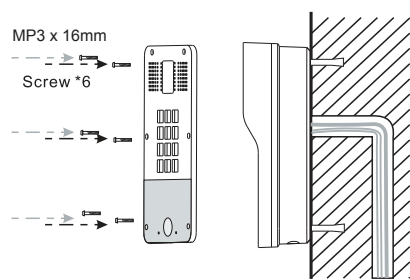

Figure 9
- B.** Push the front panel into the plastic frame and tighten it with 6 screws as shown in Figure 9.